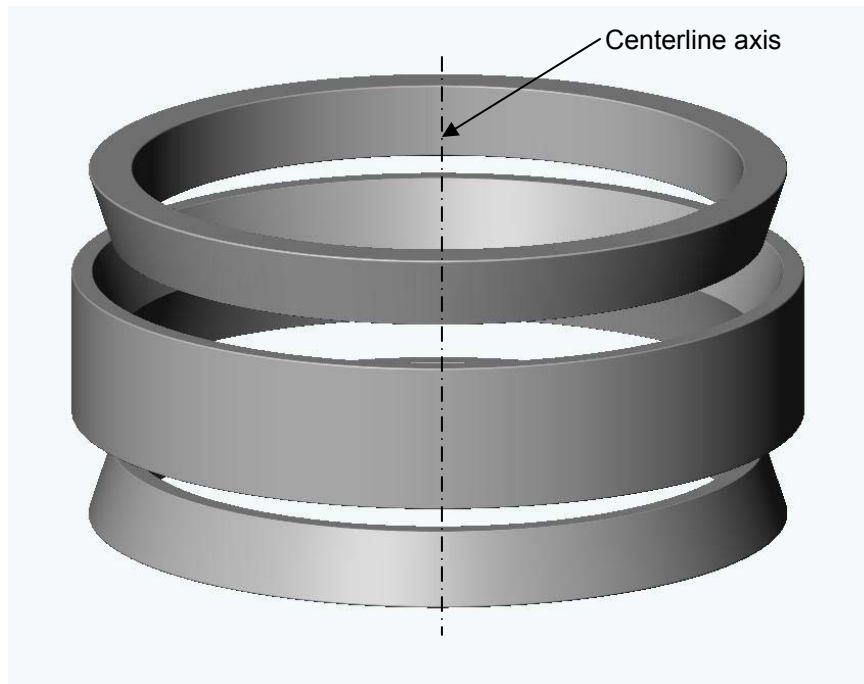

Figure 1 – Ringfeder Ring Spring Exploded View
2. If Ringfeder spring elements have seized, personnel must use appropriate caution to avoid bumping the seized ring spring while removing from the topdrive quill. **In addition a Job Safety Analysis (JSA) must be completed, with consideration of the contents of this bulletin, prior to the commencement of related maintenance activities.** When the rings separate, they will tend to travel along a line defined by the centerline axis of the spring assembly (see figure 1). Personnel **MUST** use care to ensure this axis is not pointing at themselves or other personnel until the ring spring components are disassembled. Personnel must avoid handling the rings with their hands wrapped around the ring assembly - Tesco recommends handling the seized ring assemblies with slings or rope. Personnel must be very careful to avoid bumping or dropping the spring assembly until it is restrained (see note 3).